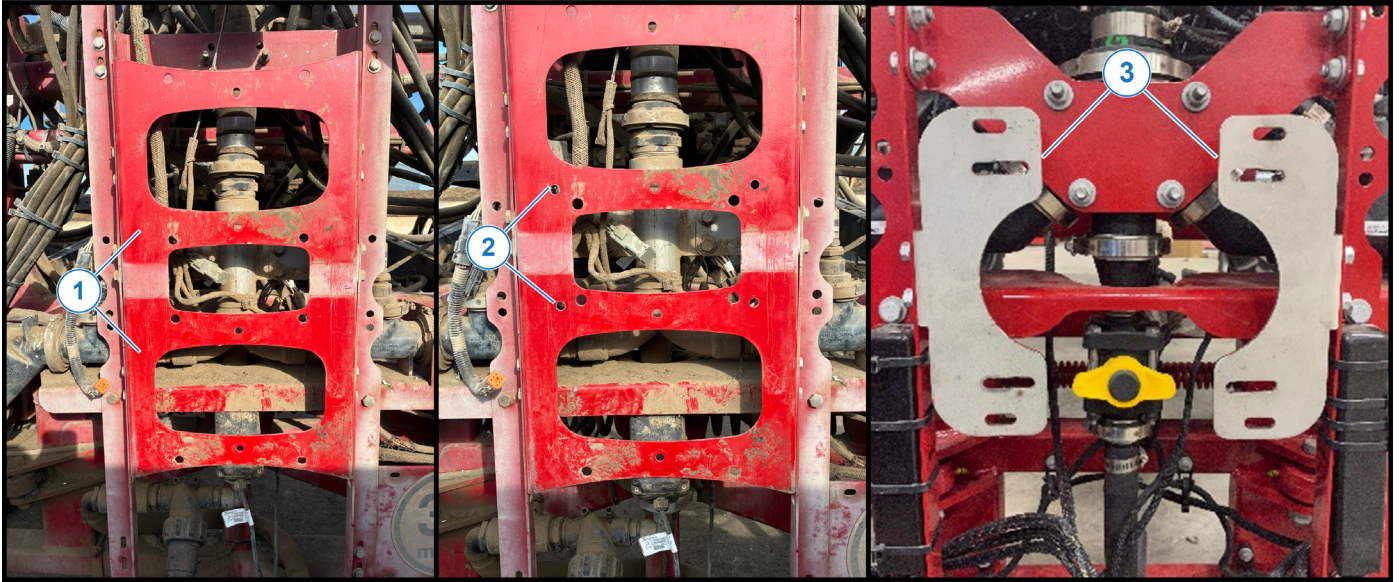

Figure 1: Hub Mounting with Aim Command removed
2. If the machine is equipped with an Aim Command system, remove the modules and existing mounting plates (**Figure 1, Item 1**).
3. Using the PinPoint III Mounting Bracket (P/N: 123000-013) as a template, mark new bolt hole locations and drill holes (**Figure 1, Item 2**).
4. If needed, use the supplied brackets (118640-038) and hardware (**Figure 1, Item 3**) to mount PPIII Lite hub and bracket assembly onto.